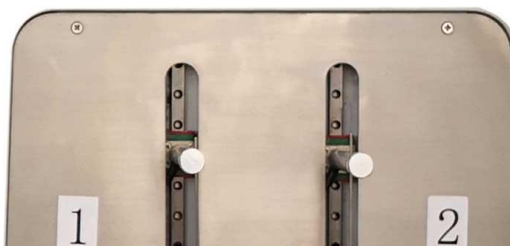

Fig.10
8. Install the test tube, test tube plug, stirring rod, temperature sensor, etc. according to the test procedures, put the test tube assembly into the cold bath, and insert the sample detection temperature sensor (Fig.10).